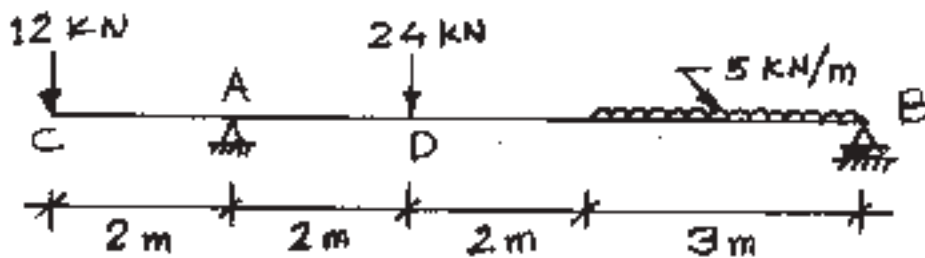

Fig. No. 5
- a) Calculate the support reactions of beam loaded as shown in Figure No. 5. Use analytical method only.